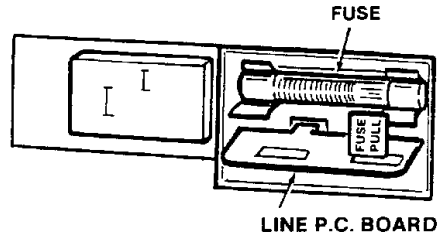
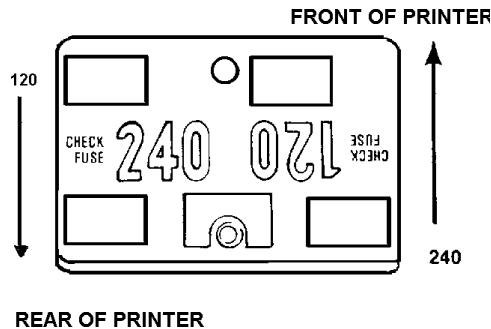

Figure 33. Fuse and Line PCB Location
Figure 34. Line PC Board Orientation.
- a). To switch the fuse from 2 amps (120V) to 1 amp (240V) (See Figure 33).
- b). Pull line PC board out using needle nose pliers (See Figure 33) and turn the board so the 240 figure reads toward the outside (See Figure 34) and reinsert the board.